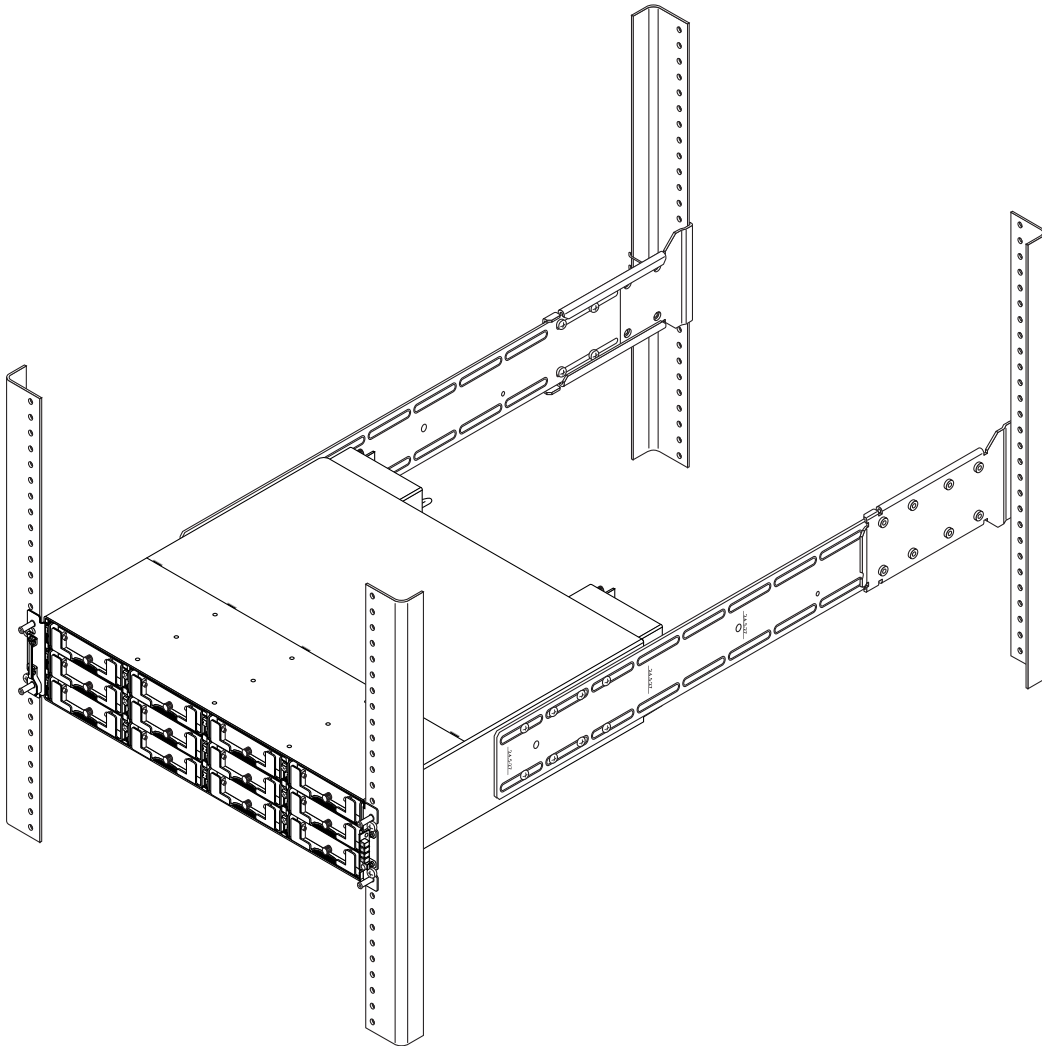

FIGURE 2-1 Rackmounted Cabinet Array Using Rear Brackets With Chassis Ears and Bezels Removed, After Installation
- You can mount a cabinet using rear and side brackets for depth ranges between 24 to 36 inches (60.96 to 91.44 cm). FIGURE 2-1 displays a completed installation of a Sun StorEdge 3000 Family 2U array in a standard EIA cabinet using rear and side brackets.
Refer to the parts list in TABLE 2-1 and the illustration in FIGURE 2-1 during installation. The table lists the major components and fasteners required to install an array into the cabinet.